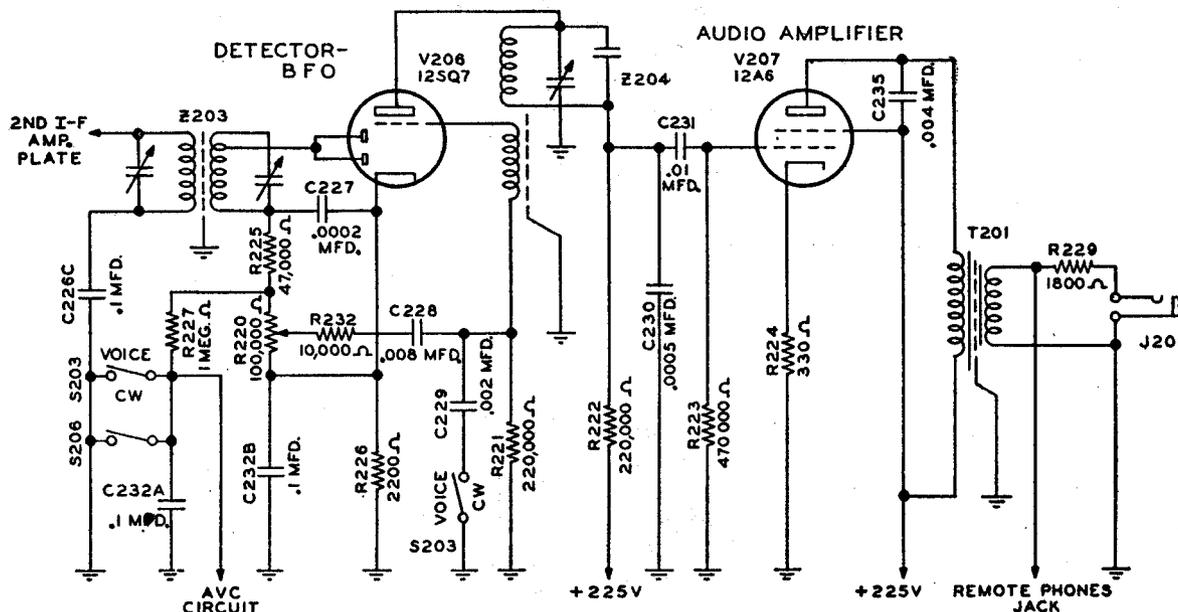

Fig. 9. Detector-BFO & Audio Amplifier Circuits
2.3.8.1. Refer to Figure 9. A duplex-diode high-mu triode Type 12SQ7 is employed as a combination detector and beat frequency oscillator. The diode detector gives output that is low in distortion when a proper value of signal voltage is applied to the diode plates. With two stages of i-f amplification, the detector in this receiver is, in general, driven to the point of optimum performance. The diode plates of the Type 12SQ7 are connected together and coupled to the output of the second i-f amplifier by the transformer Z203. The audio gain control, R220, couples the output of the detector section of V206 to the grid of the triode amplifier section of the same tube through resistor R232 and capacitor C228. The voltage necessary for the operation of the AVC circuits is obtained by tapping the junction of the load resistor, R225, and the potentiometer, R220. The filter made up of resistor R227 and capacitor C232 filters out the audio components of the AVC
2.3.9.1. Refer to Figure 9. The Class A audio amplifier circuit employs a Type 12A6 beam power tube. The output of the detector is coupled to the grid of V207 by capacitor C231. The output of the amplifier is coupled to the headphones and speaker circuits by transformer T201. Voltage for the screen and plate of the audio amplifier is obtained from the low voltage section of the power unit.